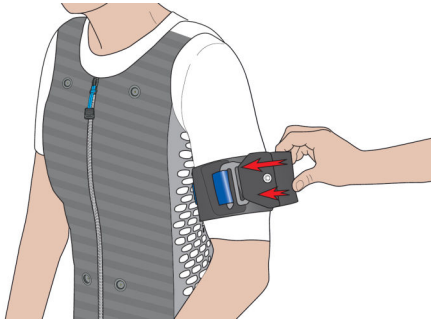

Fig. 41: Positioning the i-body® strap flex
9. ➤ Turn the i-body® strap flex so that the pushbutton faces outwards (Fig. 41).